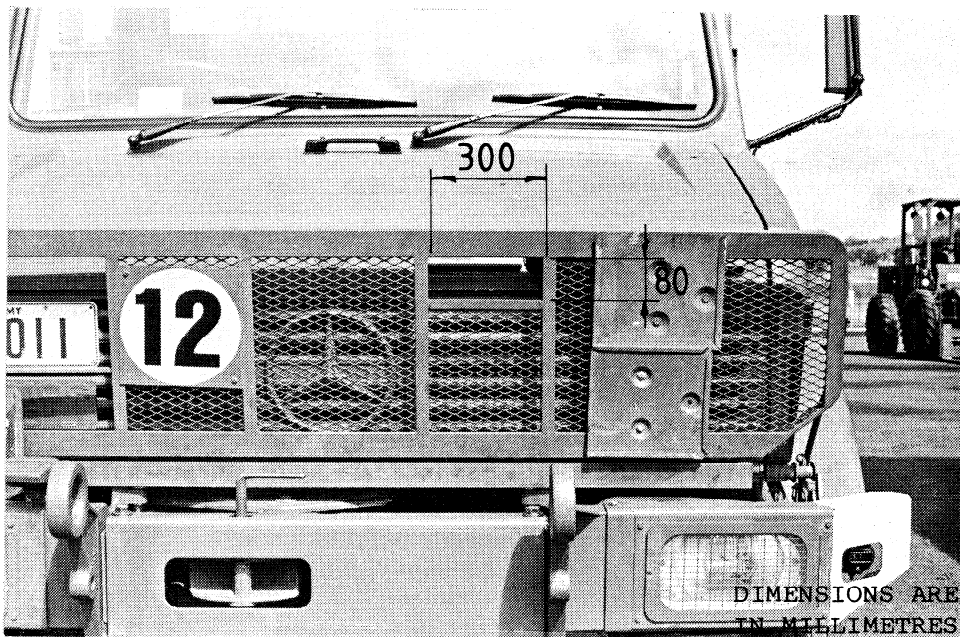

FIG 1 - COMPLETED MODIFICATION
7. To carry out the modification refer to Fig 1 and proceed as follows:
- a. Using item 1 from Table 1, weld the strip in position as shown in Fig 1.
- b. Cut out the brush guard screen from the open area, shown in Fig 1, and tack weld the exposed ends of the screen to the metal frame.